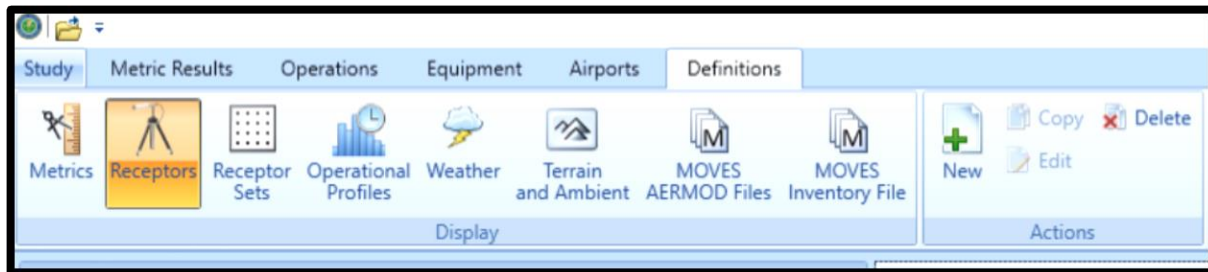

Figure 15- Definitions Tab – Receptors
1. Select the *Definitions* tab, then select *Receptors* (Figure 15).